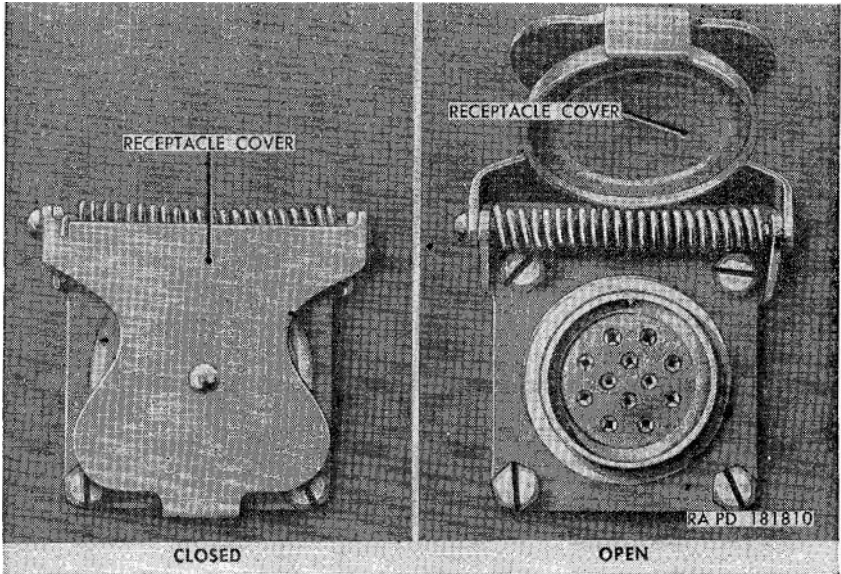

Figure 16. Trailer coupling electrical receptacle (M38A1).
b. *Trailer Coupling Electrical Connector Receptacle (M38A1) (fig. 16).* The trailer coupling electrical connector receptacle is located at the left rear corner of the body and the wiring is interconnected with the vehicle light switch. The light switch positions control the tail-lights on the trailer in the same manner as controlled on the vehicle